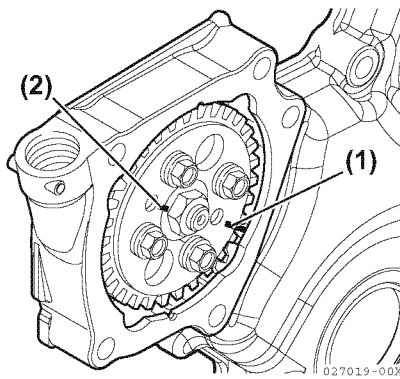

Figure 7-11
14. To aid in reassembly, make reference marks (**Figure 7-11, (1), (2)**) on the drive gear and idler gear.